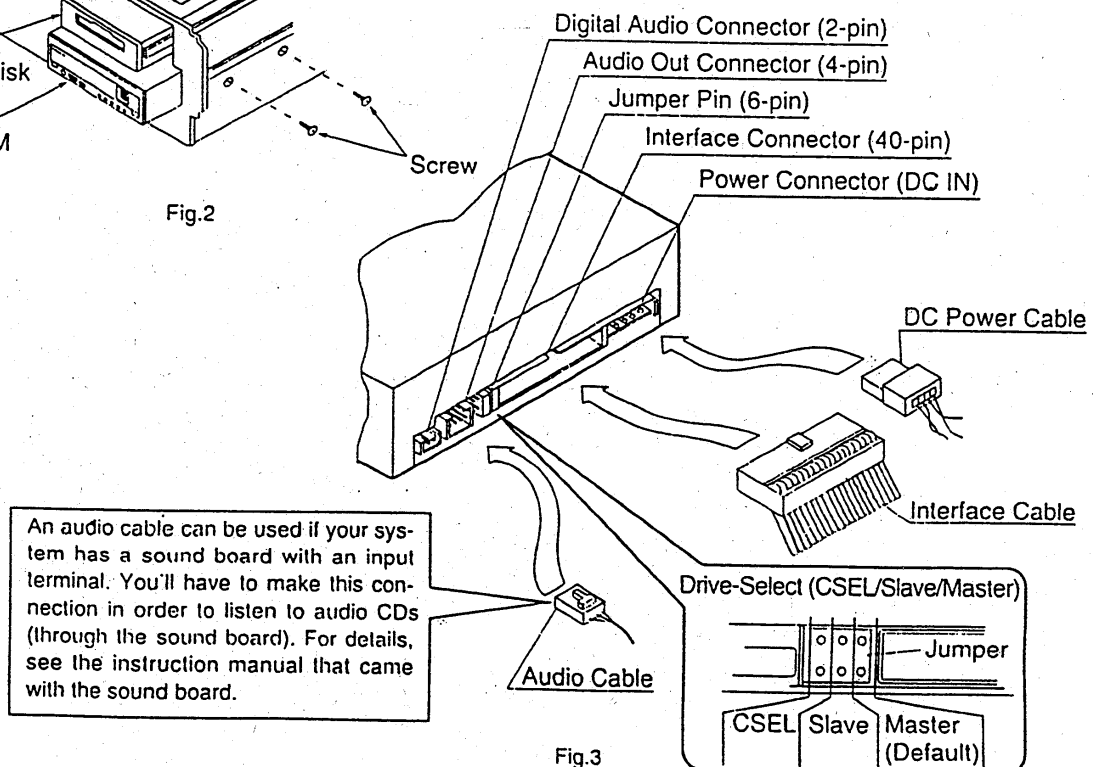

Fig.3
- Check jumper for proper ID. master. (Fig. 3)
- Connect the DC power cable, interface (See III) INTERFACE BOARD first) and audio cable to the back of the drive. (Fig. 3)